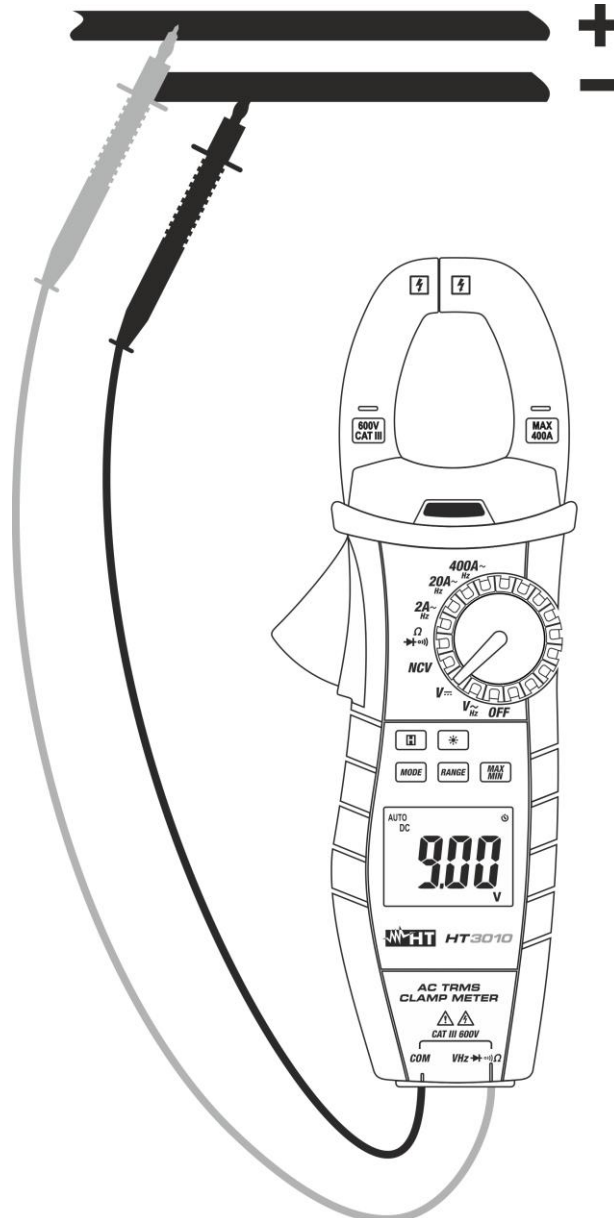

Fig. 3: Use of the instrument for DC Voltage measurement
3. Position the test leads in the desired points of the circuit to be measured (see Fig. 3). The display shows the value of voltage.
5. When symbol "-" appears on the instrument's display, it means that voltage has the opposite direction with respect to the connection in Fig. 3